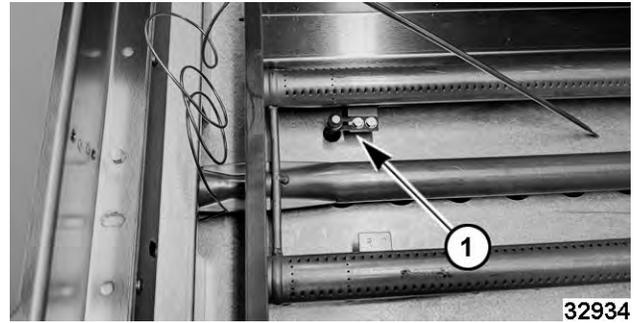

Fig. 103
4. Remove pilot (1, Fig. 103) from clip on burner.